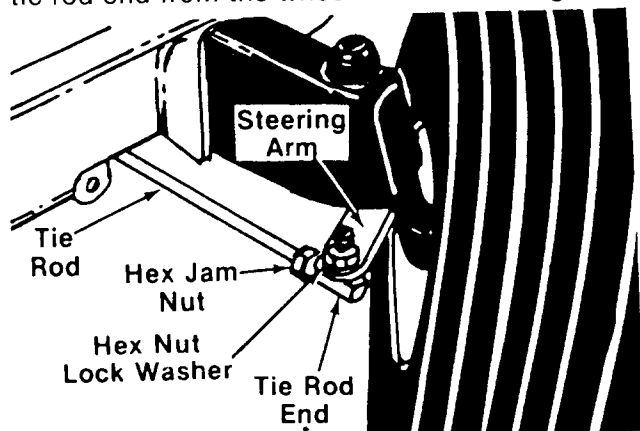

FIGURE 21
1. Remove the hex nut and lock washer, and drop the tie rod end from the wheel bracket. See figure 21.